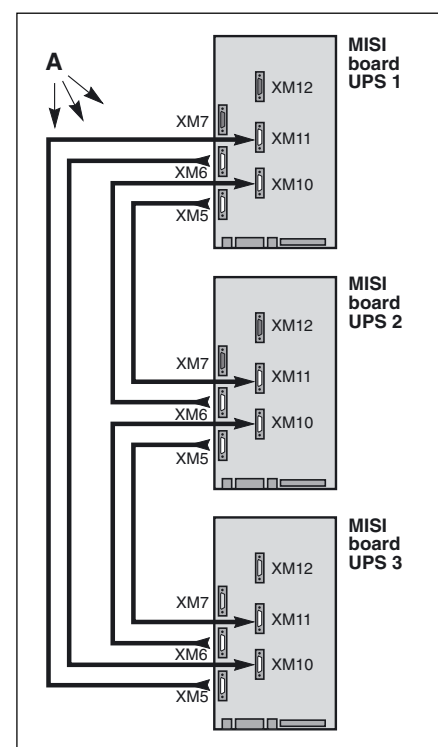

Fig. 20
- situation with three modular UPS units: see figure 20;